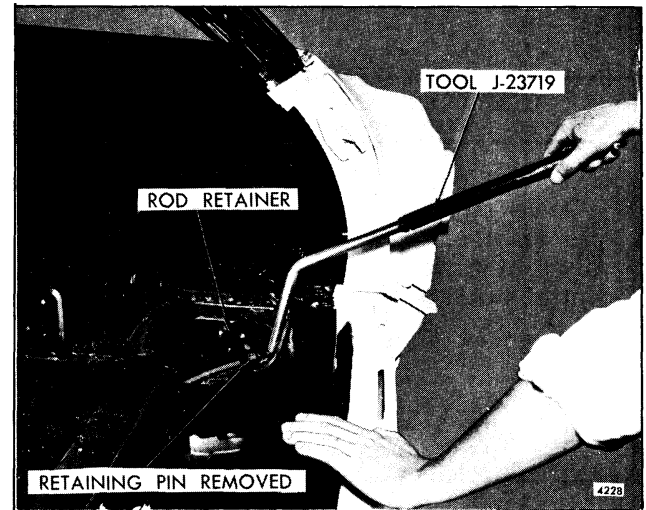

Fig. 7-106-Torque Rod Tool - Torque Rod Release or Adjustment
The retractable tail gate torque rod provides a counterbalance force for the operating cycles of the gate resulting in decreased opening and closing effort. The adjustable end of the torque rod is located on the right side of the body under the rear load supports and is secured in one of three adjusting locations by a pin inserted above the rod and through a key slot in the torque rod retainer (Fig. 7-106).
2. Remove load floor supports to gain access to torque rod retainer and with tool J-23719 or equivalent, apply downward pressure on torque rod. Carefully remove torque rod pin and allow torque rod to rotate forward to a fully relaxed position (Fig. 7-106).
1. Engage end of torque rod with tool J-23719 or equivalent, apply downward pressure against rod and remove retaining pin (Fig. 7-106).